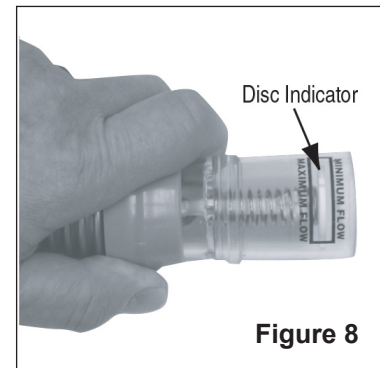

Figure 8
4. Turn the regulator valve adjustment knob clockwise to increase flow or counterclockwise to decrease flow, until the disc indicator in the flow gauge settles between "Maximum" and "Minimum" flow. See **Figure 8**.